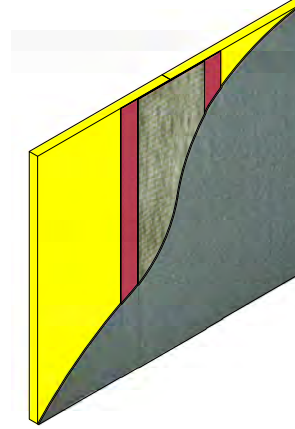

Figure 20
3. Mix and apply SENERSHIELD-R or SENERSHIELD-VB per the product bulletin instructions over substrate. (See Figure 20)